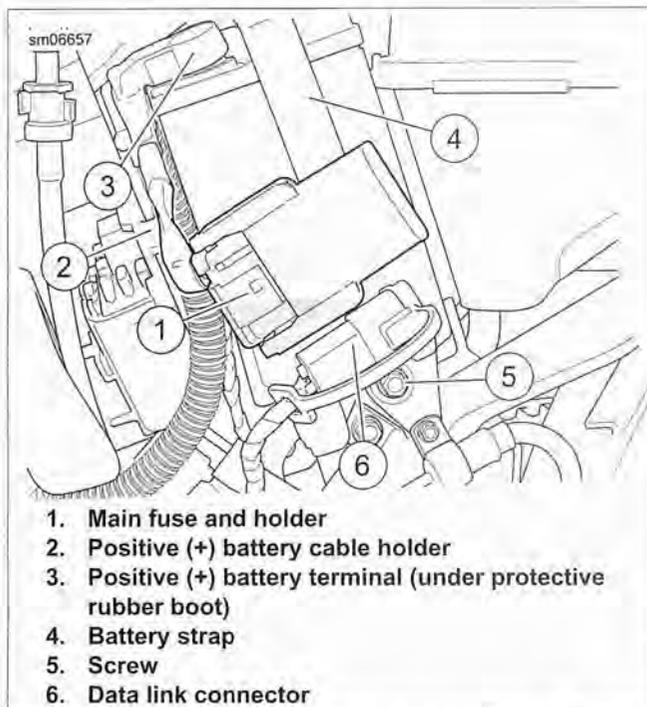

Figure 1-62. Main Fuse and Battery Location: All Models
4. See Figure 1-62. Press main fuse holder (1) toward the rear of the motorcycle until it pops off its mounting pin on battery strap (4). Remove main fuse holder from battery strap.
5. Press data link connector (6) toward the rear of the motorcycle until it pops off its mounting pin on battery strap. Remove the connector from battery strap.
6. Remove battery strap screw (5). Unhook battery strap from battery tray mount on top of battery and remove strap.
7. Lift up protective rubber boot covering battery positive (+) terminal (3). Remove screw from battery positive (+) terminal and remove positive (+) battery cable.
8. Disconnect positive (+) battery cable from cable holder (2).
11. See Figure 1-62. With negative (-) battery cable disconnected from grounding point on crankcase, insert screw through positive (+) battery cables: through main fuse cable first, then through main positive (+) battery cable, and into positive (+) battery terminal (3). Thread screw into terminal. Tighten to 60-70 **in-lbs** (6.8-7.9 Nm).